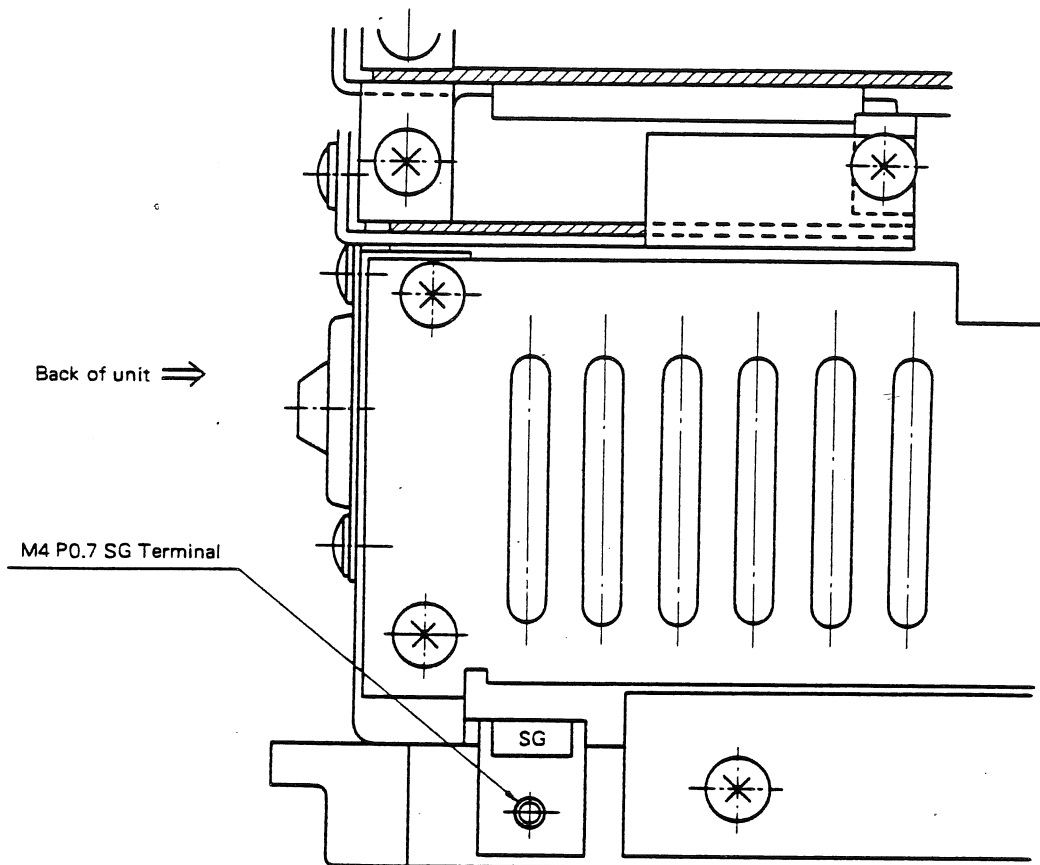

Figure 4-17 SG Terminal
- (1) This drive unit is uniformly grounded in the signal ground (SG). If the FG and SG connection is required on the system, use the SG tap at the back of the unit as shown in Figure 4-17.